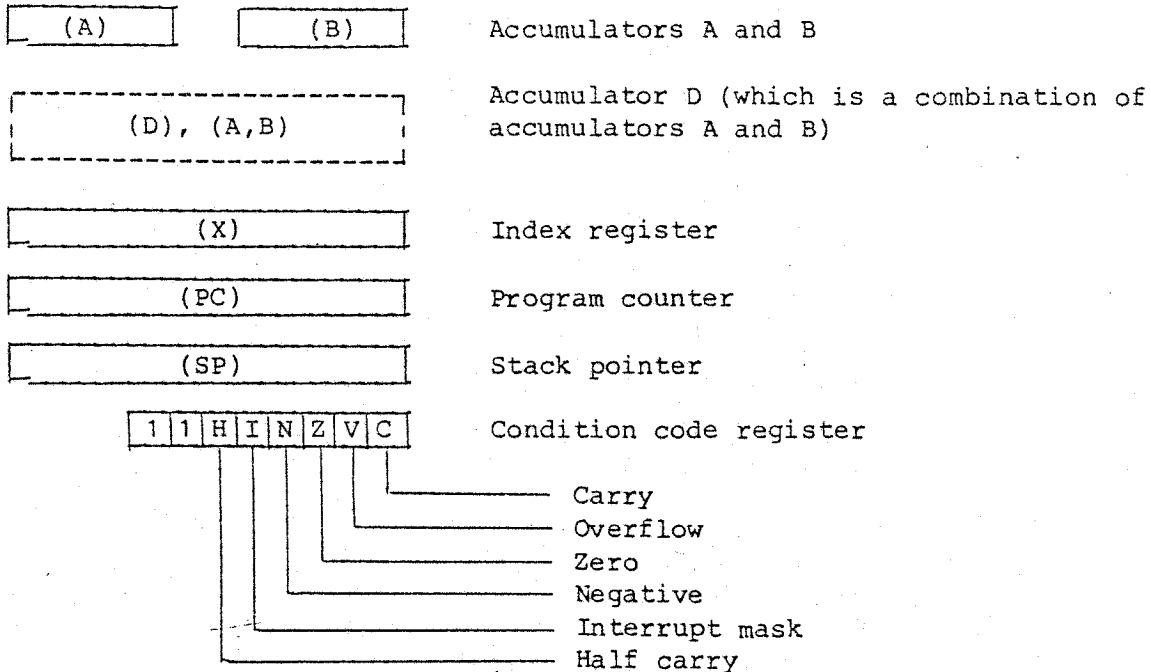
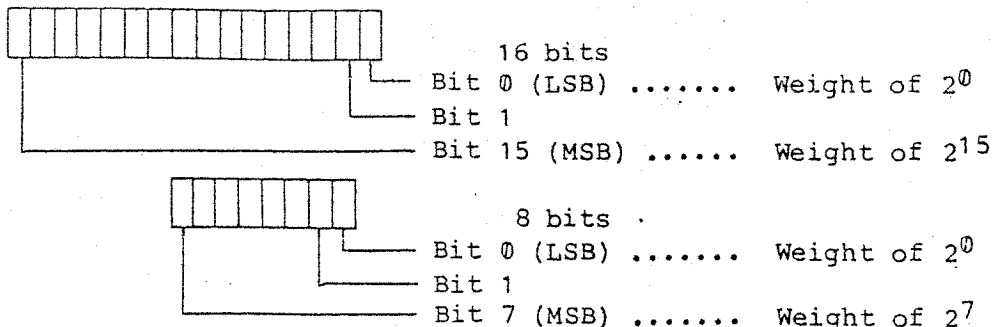

Fig. 1-1 Arrangement of CPU Registers
Fig. 1-2 Bit Positions
The HX-20 incorporates two HD6301 microprocessors. One of the microprocessors has a 64K-byte memory area to control the entire HX-20 components and is called the master MCU (Micro Computer Unit). The other plays an auxiliary role. Namely, it controls I/O devices such as the microprinter, cassettes, etc., and is called the slave MCU. Each MCU has a CPU, a ROM, a RAM, a serial I/O port, a parallel I/O port, and timer function. Fig. 1-1 shows the arrangement of the registers in the CPU.
The registers are identified by symbols: (A) for accumulator A, (B) for accumulator B, (D) or (A,B) for accumulator D, (X) for the index register, (PC) for the program counter, and (SP) for the stack pointer. For the condition code register, (H), (I), (N), (Z), (V), and (C) are used to indicate the respective bits as shown in Fig. 1-1. As shown in Fig. 1-2, bit positions are indicated from the bit lowest place with the lowest place value (or weighting) at the extreme right such as bit 0, bit 1 ... This bit with the lowest place value is called LSB (Least Significant Bit), while the bit with the highest place value (at the extreme left) is called MSB (Most Significant Bit).